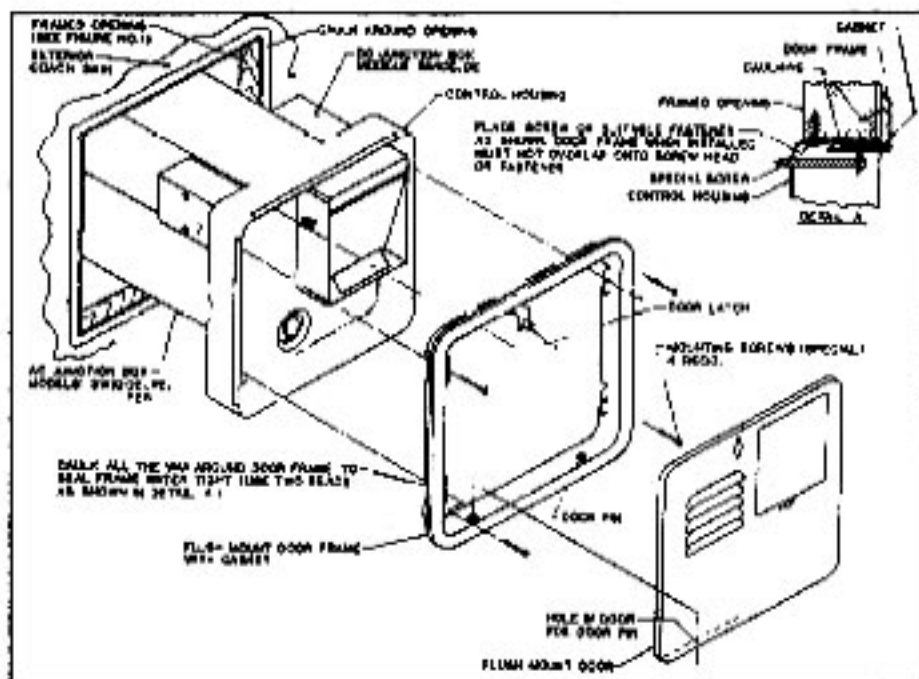

Figure 2
(See Figure 2 for Illustration)
- B. Refer to Figure 2 for location of A.C. junction box on model SW10DE. Refer to Figure 5 for A.C. junction box on model SW10DEM.